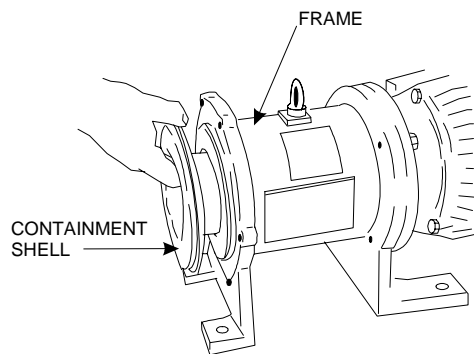

FIGURE 9
1. After thorough decontamination of the pump, remove containment shell, inner magnet and impeller unit from the frame (Figure 9).